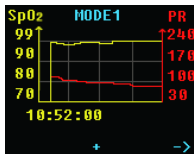

Figure6. Review Interface 1
- a) In the measure interface, press "up button" to enter the Review Interface 1 directly, as shown in Figure6: